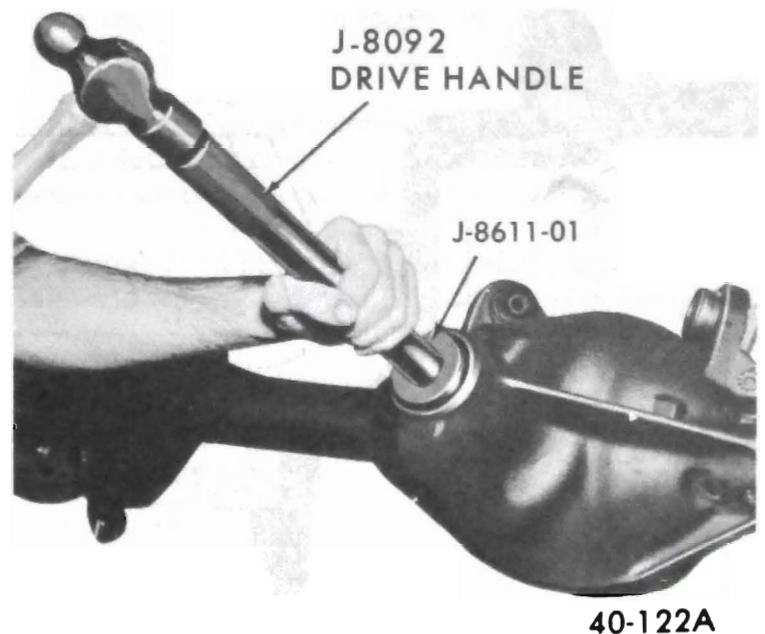

Figure 40-127 - Installing Front Pinion Bearing Outer Race
2. If front pinion bearing is to be replaced, install new outer race using Installer J-8611-01 with Driver Handle J-8092. See Figure 40-127.